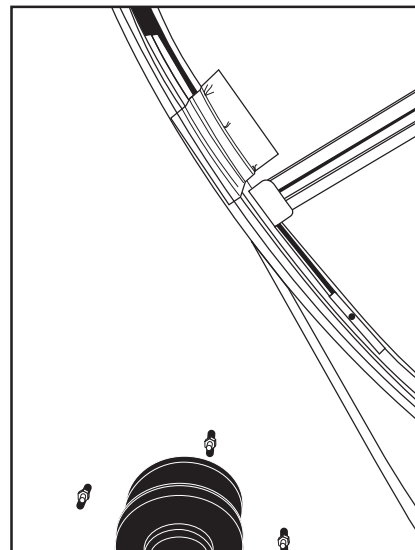

Fig. 169 — Belt Attached to Wheel Rim
3. At location near pulley, attach the hook end of belt to wheel rim with tape, making sure that narrow side of “V” belt is positioned against rim and link is covered by the tape (see Fig. 169).